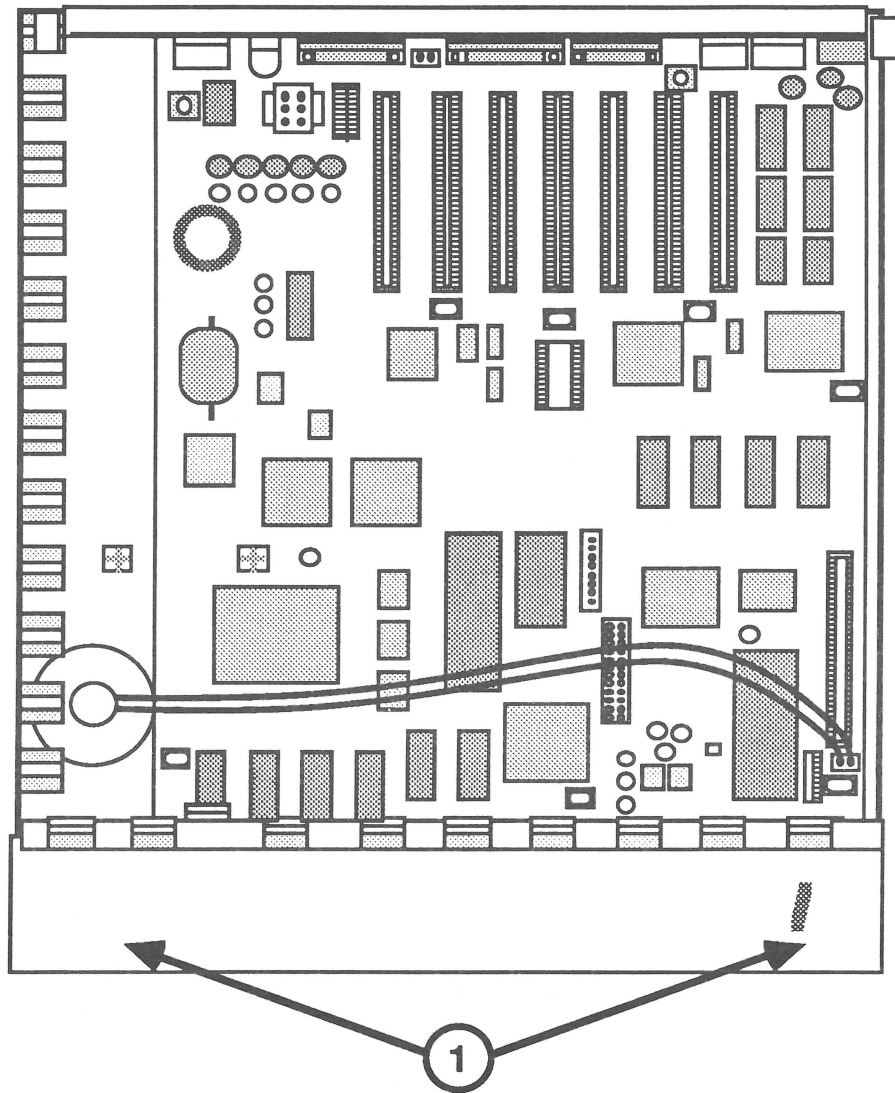

FIGURE 3
3. Locate the case hinge (see Figure 3, #1).